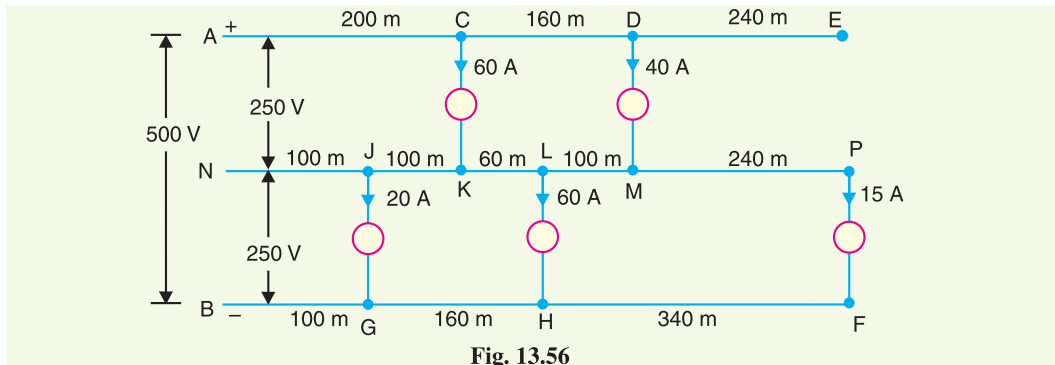
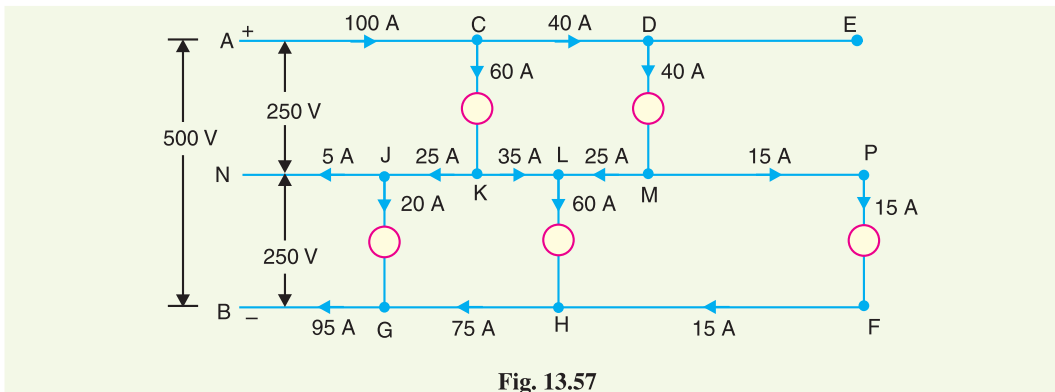

Fig. 13.56
Fig. 13.57
**Solution.** From the current loading given in Fig. 13.56, we can find the magnitudes and directions of currents in the various sections by Kirchoff's current law as shown in Fig. 13.57. As the neutral is of same cross-section, its resistance is  $0.02 \Omega$  per 100 metres. The voltage drops in the various sections are worked out below :